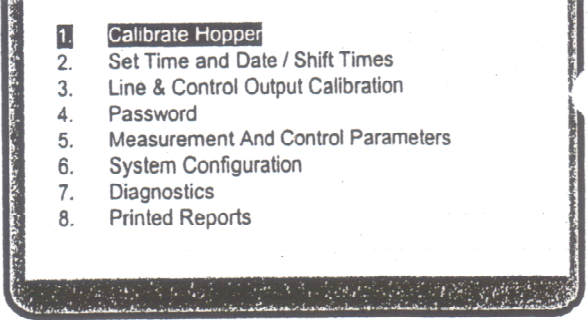

Fig. 3
- Press **1** to select "Calibrate Hopper" from the Calibration Menu (Fig. 3).